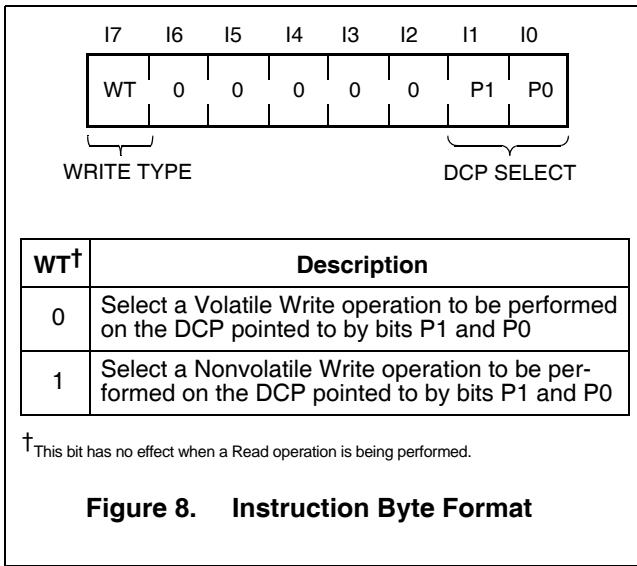

Figure 8. Instruction Byte Format
The Instruction Byte (Figure 8) is valid only when the Device Type Identifier and the Internal Device Address bits of the Slave Address are set to 1010A₀11. In this case, the two Least Significant Bit's (I₁ - I₀) of the Instruction Byte are used to select the particular DCP (0 - 2). In the case of a Write to any of the DCPs (i.e. the LSB of the Slave Address is 0), the Most Significant Bit of the Instruction Byte (I₇), determines the Write Type (WT) performed.